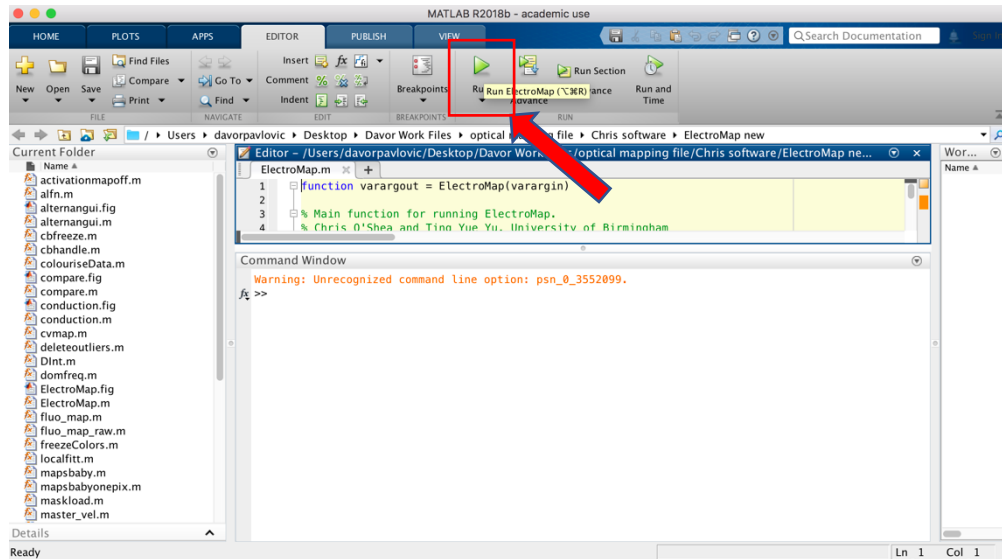

Figure 1. MATLAB graphical user interface with the ElectroMap.m file loaded. Run button highlighted.
- Click on the Run ► button at the top of the MATLAB (see Figure 1)